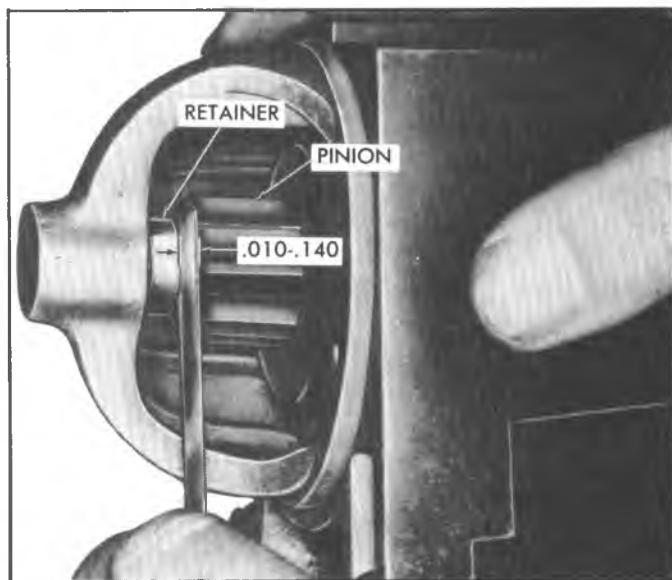

Fig. 17s—Checking Pinion Clearance
- feeler gauge to check clearance between pinion and retainer (Fig. 17s).